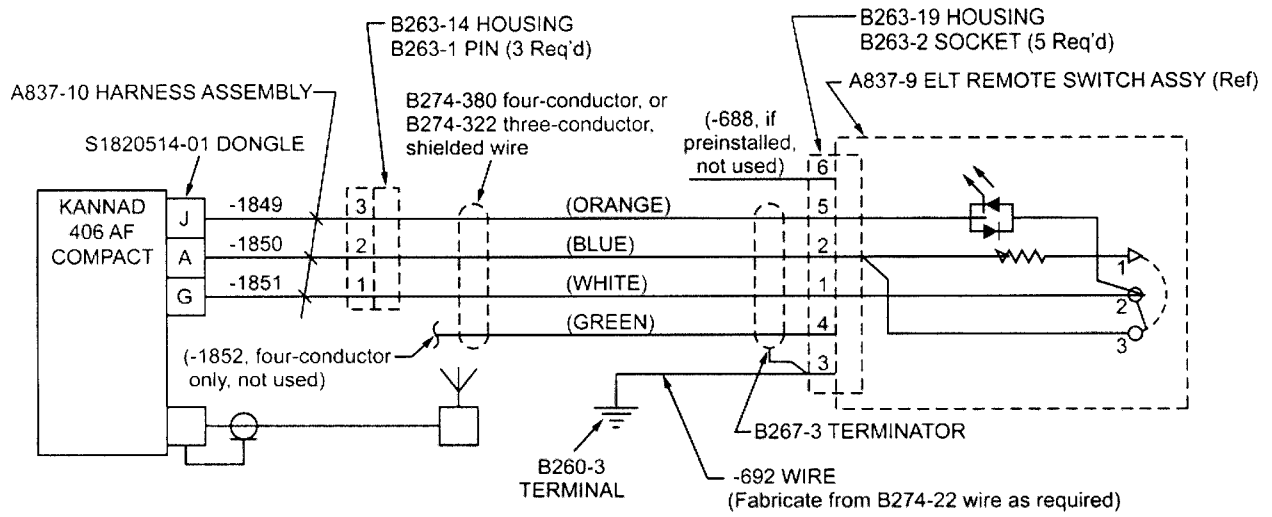

FIGURE 4 WIRING SCHEMATIC
10. Refer to Figure 4. At forward end of three- or four-conductor shielded wire, strip insulation from and crimp a B263-2 socket on each colored wire and heat-shrink B267-3 terminator on shield. Fabricate -692 wire from approximately two feet of B274-22 wire. Strip insulation and crimp B260-3 terminal on one end of -692 wire. Strip insulation on opposite end of -692 wire and crimp both this end and B267-3 terminator's lead in a single B263-2 socket. Insert sockets in B263-19 housing per Figure 4.
11. At aft end of shielded wire, strip insulation from and crimp B263-1 pins on orange, blue, and white wires. If shielded wire has four conductors, cut green wire flush with shield. Insert pins in B263-14 housing per Figure 4.